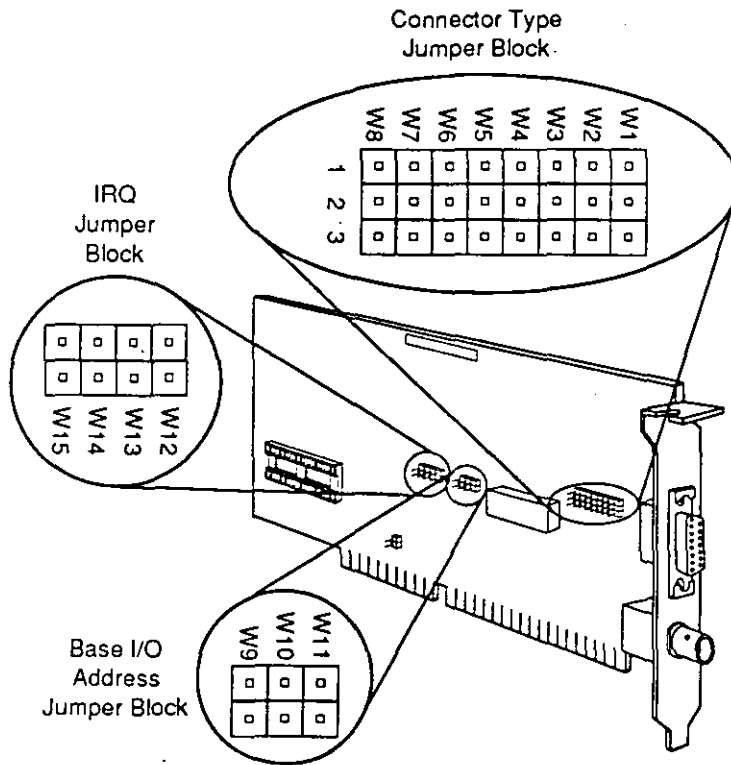

Figure 2.12
3. Locate the components used to make configuration option settings by referring to Figure 2.12.